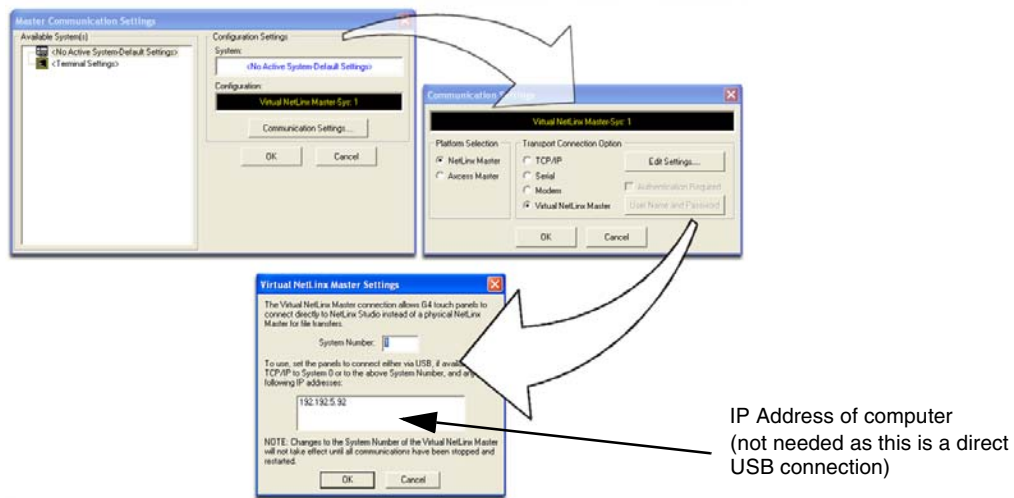

FIG. 47 Assigning Communication Settings for a Virtual Master
2. Select **Settings > Master Communication Settings**, from the Main menu to open the Master Communication Settings dialog (FIG. 47).
6. Click the **Edit Settings** button (on the *Communications Settings* dialog) to open the *Virtual NetLinX Master Settings* dialog (FIG. 47).